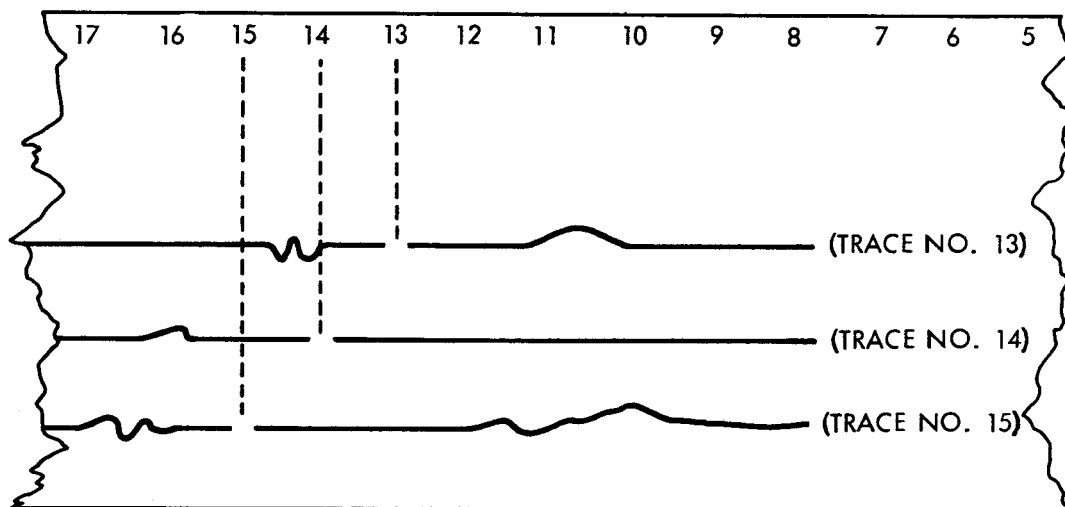

Figure 2-7. Recorder Charts
- g. Adjust R 302 to obtain a 5-inch deflection of trace No. 5 on the recorder chart. (The trace number is indicated by the position of the gap in the trace. See Fig. 2-7.)